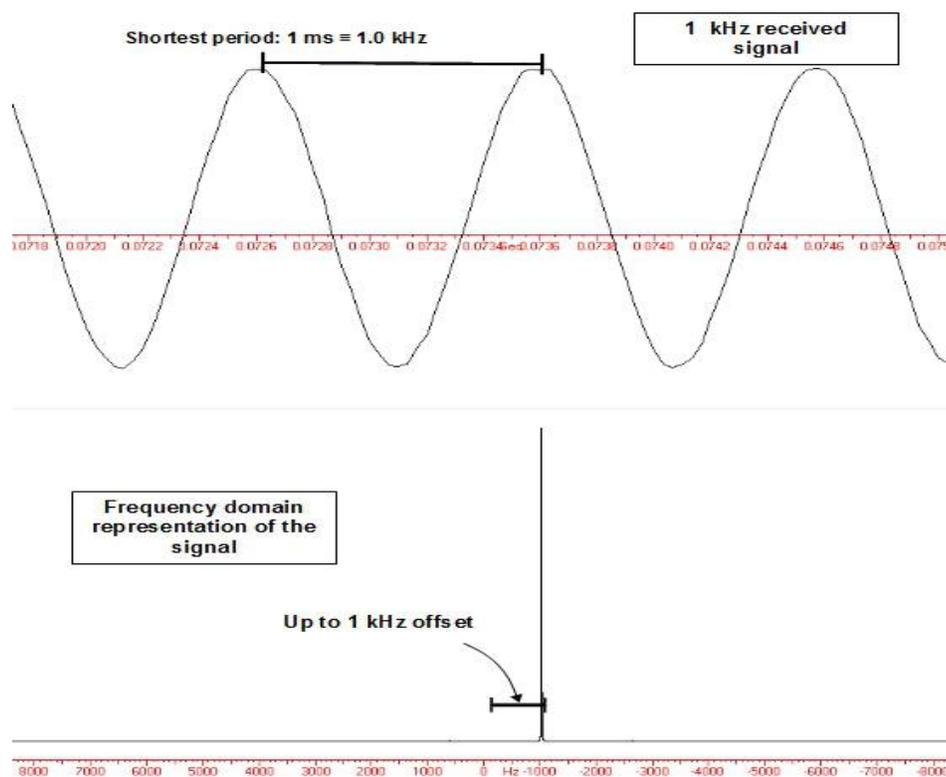

Figure 9: Data received by an iSpin-NMR system performing the Rx test. The input signal is attenuated by over 100 dB and is less than 18  $\mu$ V peak-to-peak.
- Open the “`rx_test.fid`” file using Felix NMR software (available for 32-bit Windows systems, available for download at: [http://www.spincore.com/support/RadioProcessor/Felix/Felix\\_Instructions.shtml](http://www.spincore.com/support/RadioProcessor/Felix/Felix_Instructions.shtml)) and verify the 1 kHz signal. After doing the FFT, you should see a strong signal at 1 kHz. Figure 9 shows data captured by the iSpin-NMR system with a signal attenuated by over 100 dB. The time domain signal is on top (expanded) and the FFT is shown on the bottom.